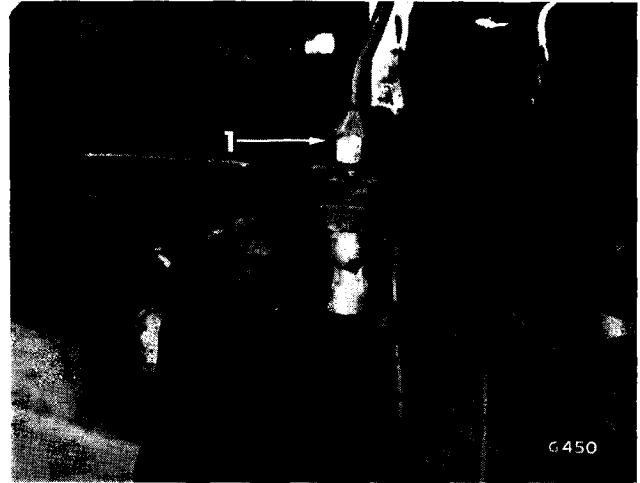

Fig. 16. Brake pipe union
2. Detach the brake pipe union (1) (Fig. 16), and plug the end to avoid loss of fluid.
3. Remove two nuts (66) from the lower fulcrum brackets. Note the quantity and position of shims behind the brackets.